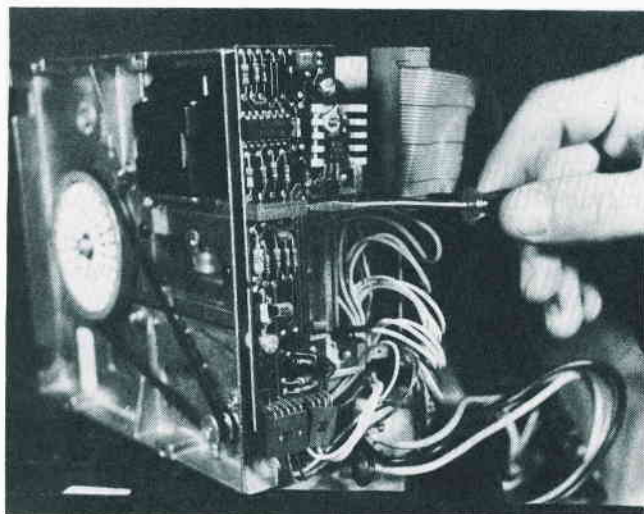

Fig. 5-12. The screwdriver is inserted in the speed adjustment potentiometer (R23).
11. Locate the speed adjustment control potentiometer in the back middle of the drive as shown in Fig. 5-12.